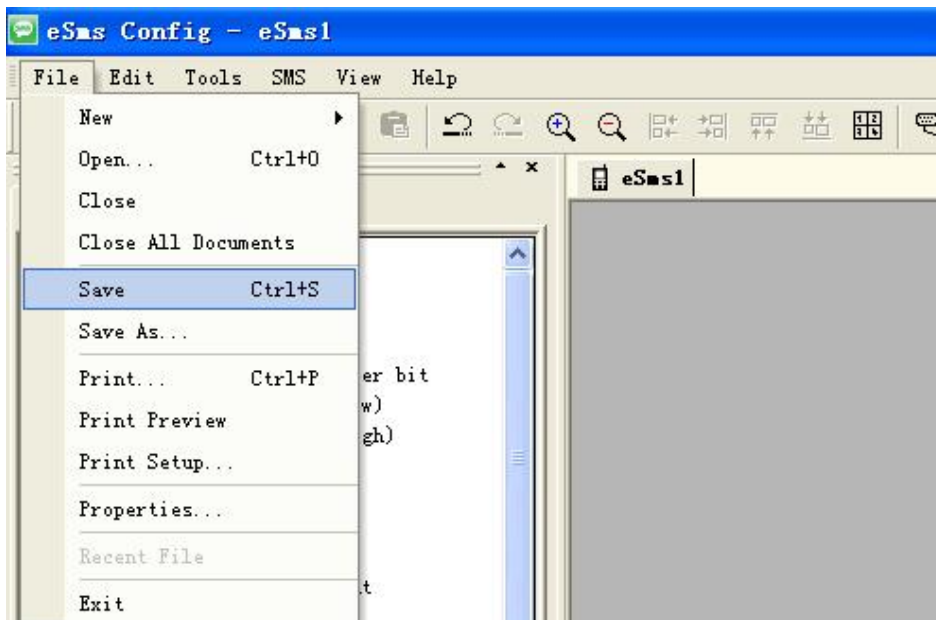

Fig. 7.10.8 Save File Menu
1. To save a Program, click option "save" or "Save As" under menu "File" with left button of the mouse, as shown in Fig.7.10.8, or click button "  "under toolbar.